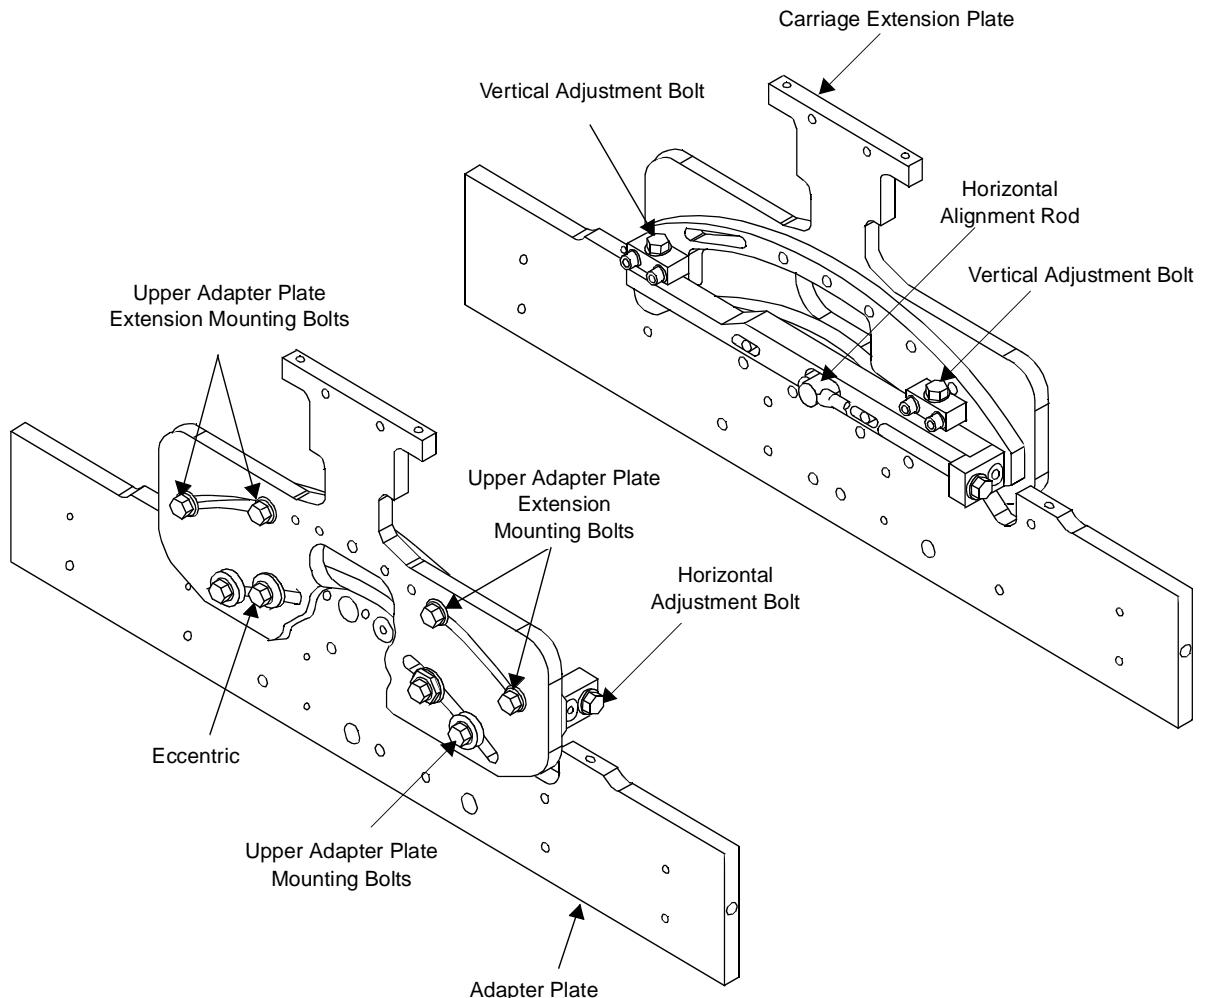
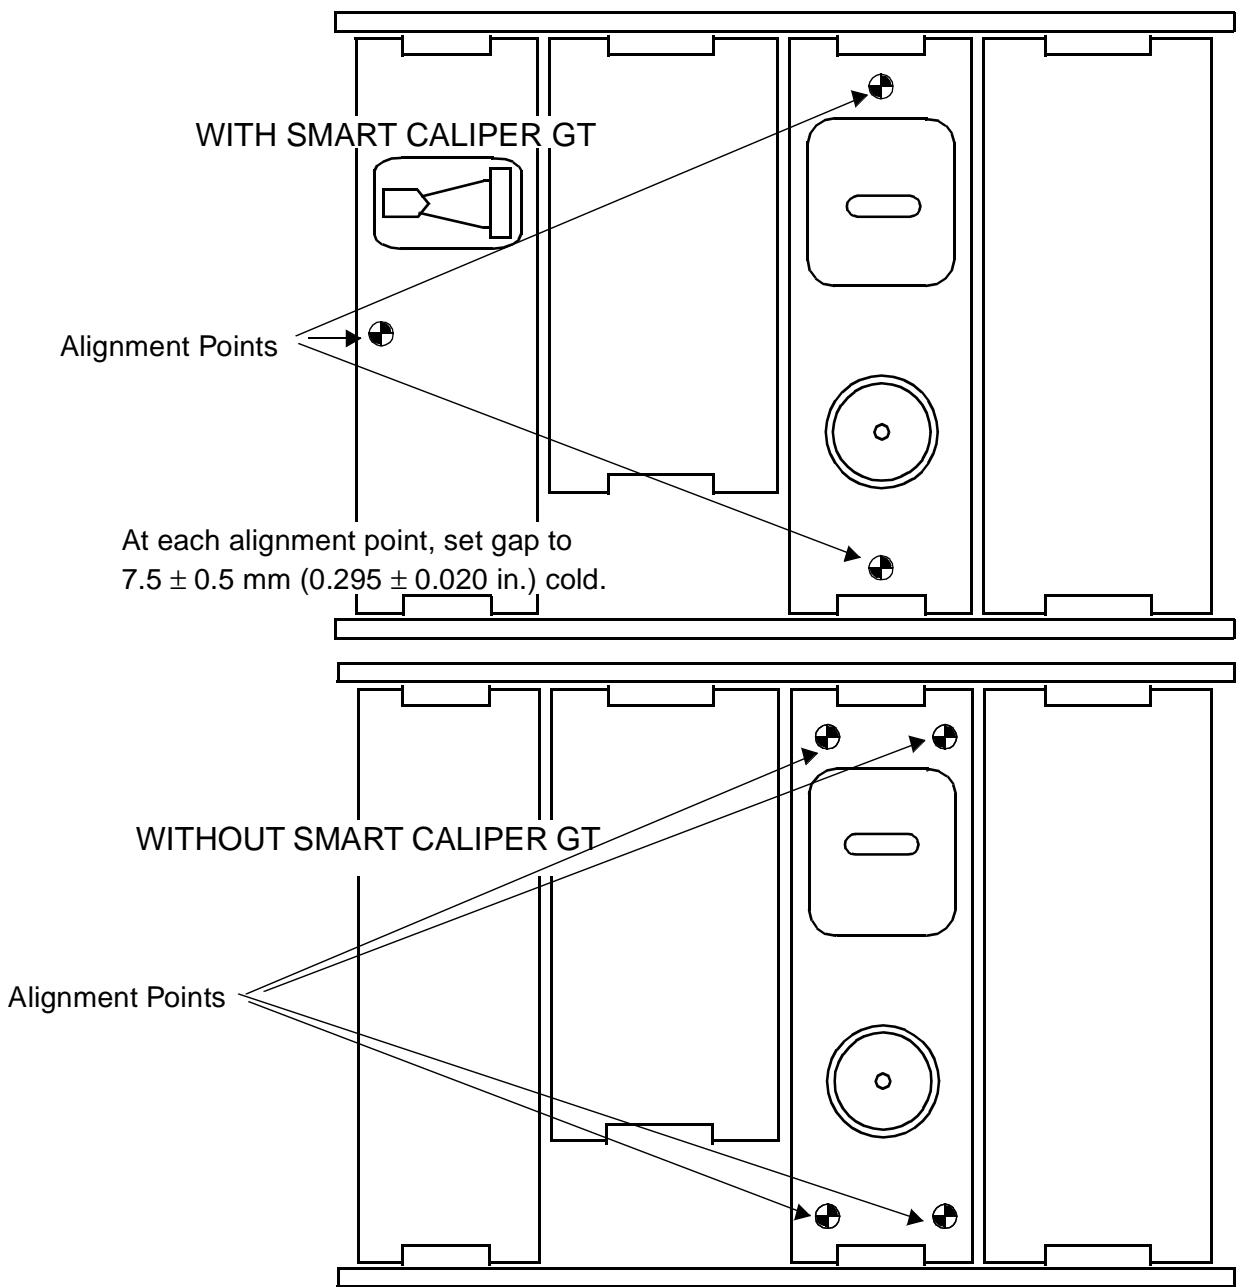

Figure 3-13 Pass Angle Adjustment Tool
Figure 3-15 Air Gap Alignment Points
12. Loosen upper adapter plate mounting bolts and remove the mounting bolts with eccentrics. See Figure 3-13 on page 47.
13. Loosen the adapter plate extension mounting bolts. See Figure 3-13.
17. Tighten the upper adapter plate extension mounting bolts. See Figure 3-13.
3. Align the upper head to the lower head using the horizontal adjustment bolts on the adapter plate extension. See Figure 3-13 on page 47.
Refer to Figure 3-13 on page 47 and Figure 3-15 while performing the air gap alignment procedure.
1. Use the vertical adjustment bolt to achieve a 7.5 ± 0.5 mm (0.295 ± 0.020 in.) cold air gap between the base plates along the on-sheet end of the sensors and at the points designated in Figure 3-15. For every half turn of a vertical adjustment bolt, do a half turn to its opposite adjustment bolt. Across the sensor window, check the distance using the air gap tool provided with the platform. If bolts seem to bind at any time, adjust the opposite side air gap before proceeding.